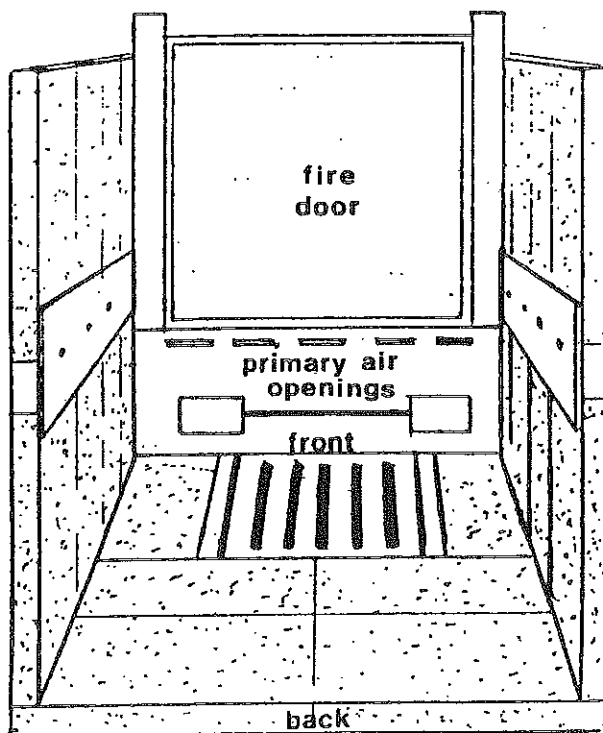

figure 2
2. If your stove doesn't have any bricks, install the bricks as shown in figure 2. (Also see figure 27, page 18)
4. Place your logs on top of the paper and kindling, making sure that front face of the logs are kept 1 inch away from the front inside face of the fire chamber, also make sure that the primary air openings as shown in figure 2 are kept open.
6. Periodically inspect the primary air openings to make sure that they are free and clear of any ashes. The long narrow slit between the two square holes MUST be kept clean. (see figure 2)